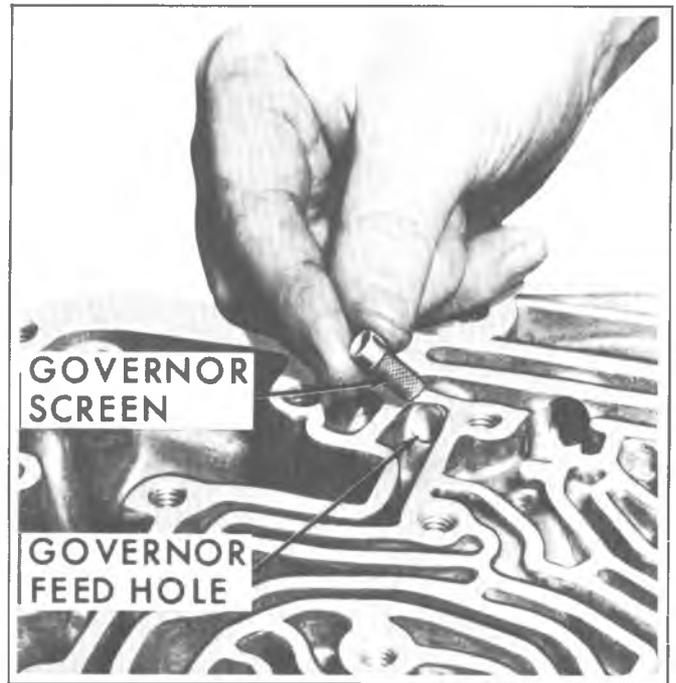

Fig. 7A-20B--Removing Governor Feed Screen
5. Remove four (4) check balls from correct passages in case face (fig. 7A-18B).